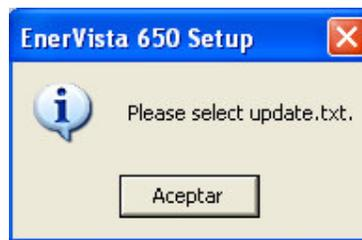

FIGURE 9-27: FIRMWARE FILE ACCEPTANCE
9.3.2.6 Once the relay has been turned OFF and ON, a new screen (Figure 9-27) will require the firmware upgrade files ("update.txt"). Wherever from this upgrade.txt file would be obtained (www.geindustrial.com/multilin/ or from TS Dept. at any GE Multilin facility), then it must be saved in some directory in the root drive or in the desktop of the PC.